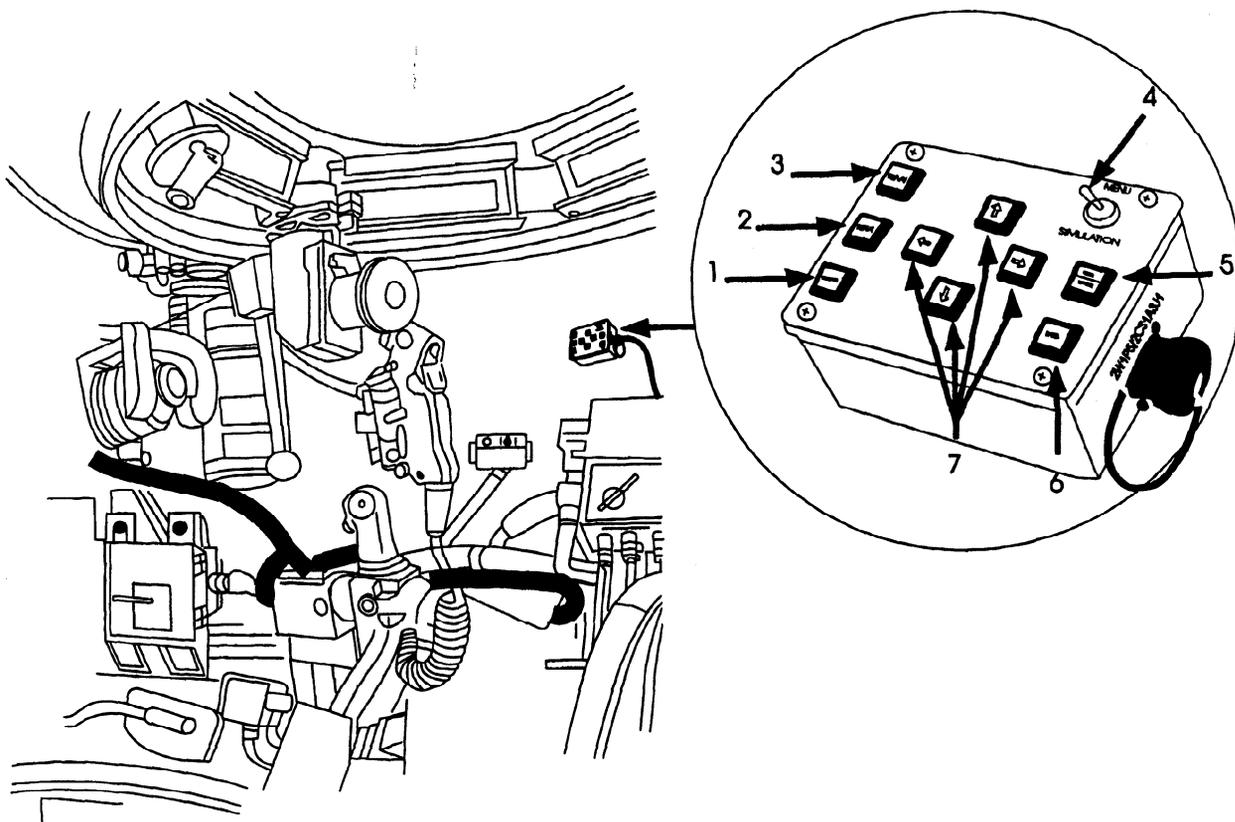

Figure 2-14. TC's Keypad
2.3.1.6 TC's Keypad. When the system is under the TC's control (Secondary Operating Mode), the TC uses the Enter and arrow keys on this keypad, shown in Figure 2-14, to access all the functional capabilities of the system (except crew Records Management functions and Evaluation exercises) and to control training. The following function keys are used to control the simulation: